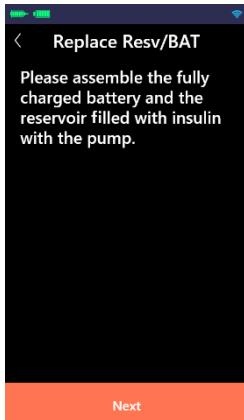

Figure 4.20
**(2)** Assemble the fully charged battery and the reservoir filled with insulin with the pump (as shown in Figure 4.20). After the assembly is completed, please click "Next".